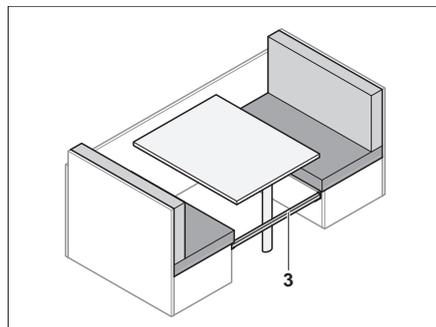

Fig. 69 Inserting the reinforcement panel
- Insert the additional rail (Fig. 69,3) between the benches.